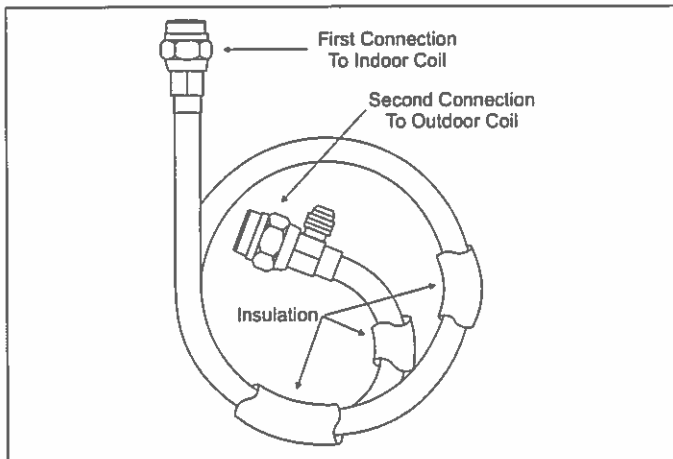

FIGURE 5: Quick Connect Refrigerant Line
7. Install refrigerant lines to indoor coil first. (The couplings without Schrader valves are to be connected to the indoor coil. See Figure 5.